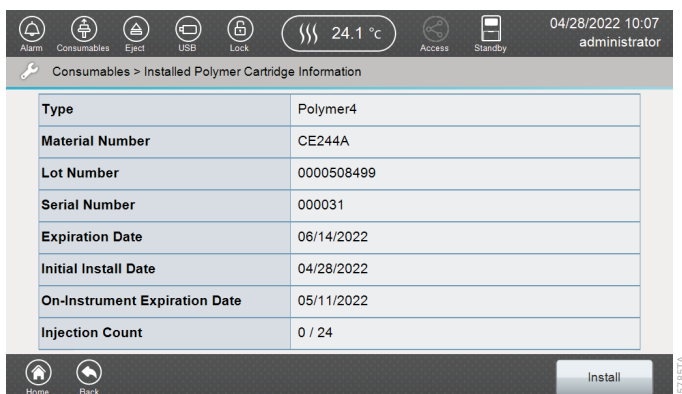

Figure 25. 'Installed Polymer Cartridge Information' screen.
1. Select **Polymer** on the 'Consumables' screen (Figure 11). This will open the 'Installed Polymer Cartridge Information' screen (Figure 25).